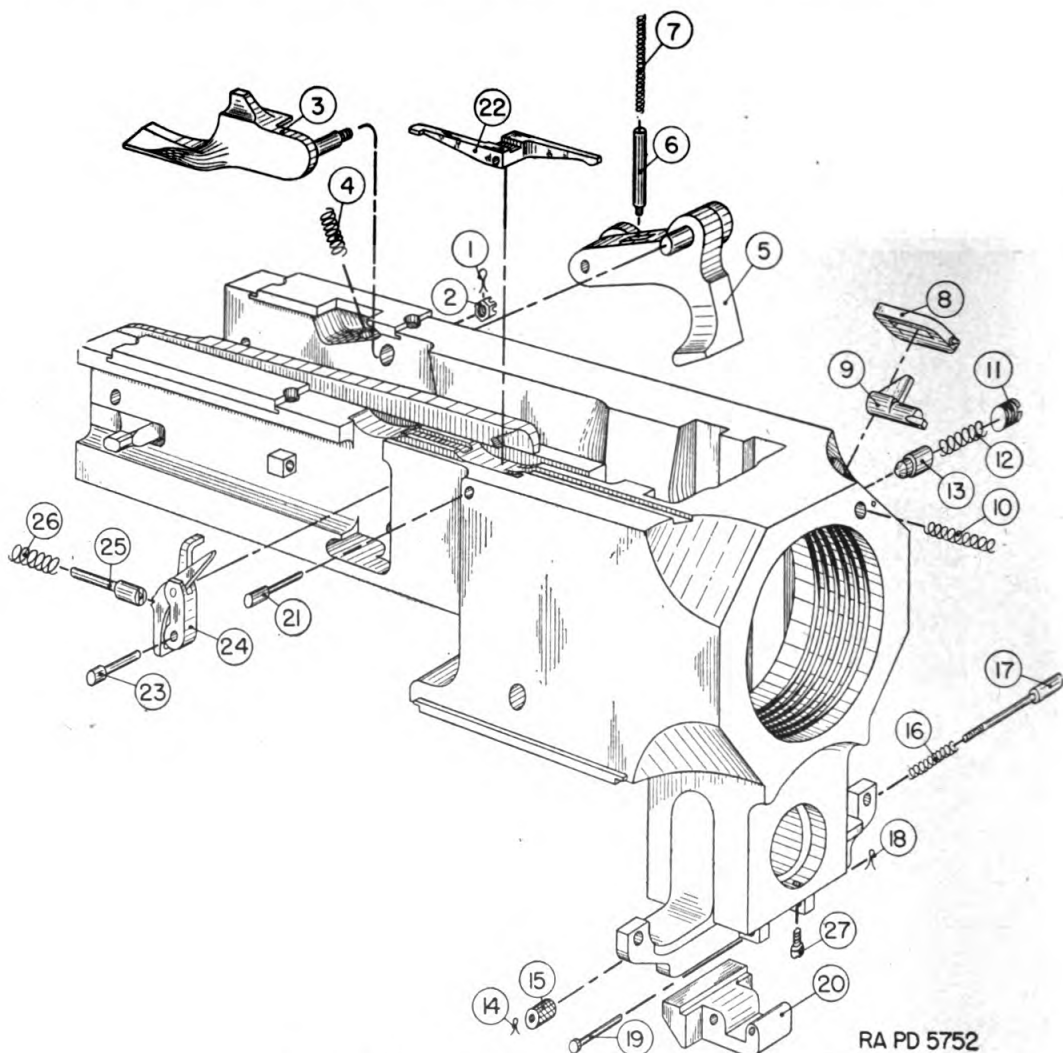

FIGURE 63.—Disassembly of tube extension.
**73. Disassembly of tube extension (fig. 63).—a. Ejector assembly.**—(1) Remove cotter pin which secures ejector nut in place.